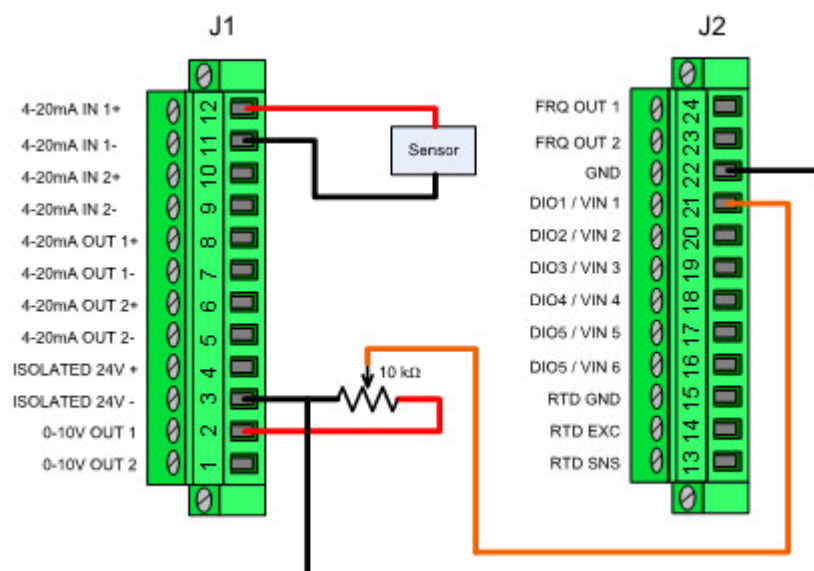

Figure 7-12 J1 and J2 wiring to use 4-20mA OUT 1 as external setpoint control source.
2. Using a sensor that provides 4-20 mA and an appropriately sized potentiometer, hookup the J1 and J2 connectors as shown in Figure 7-12.